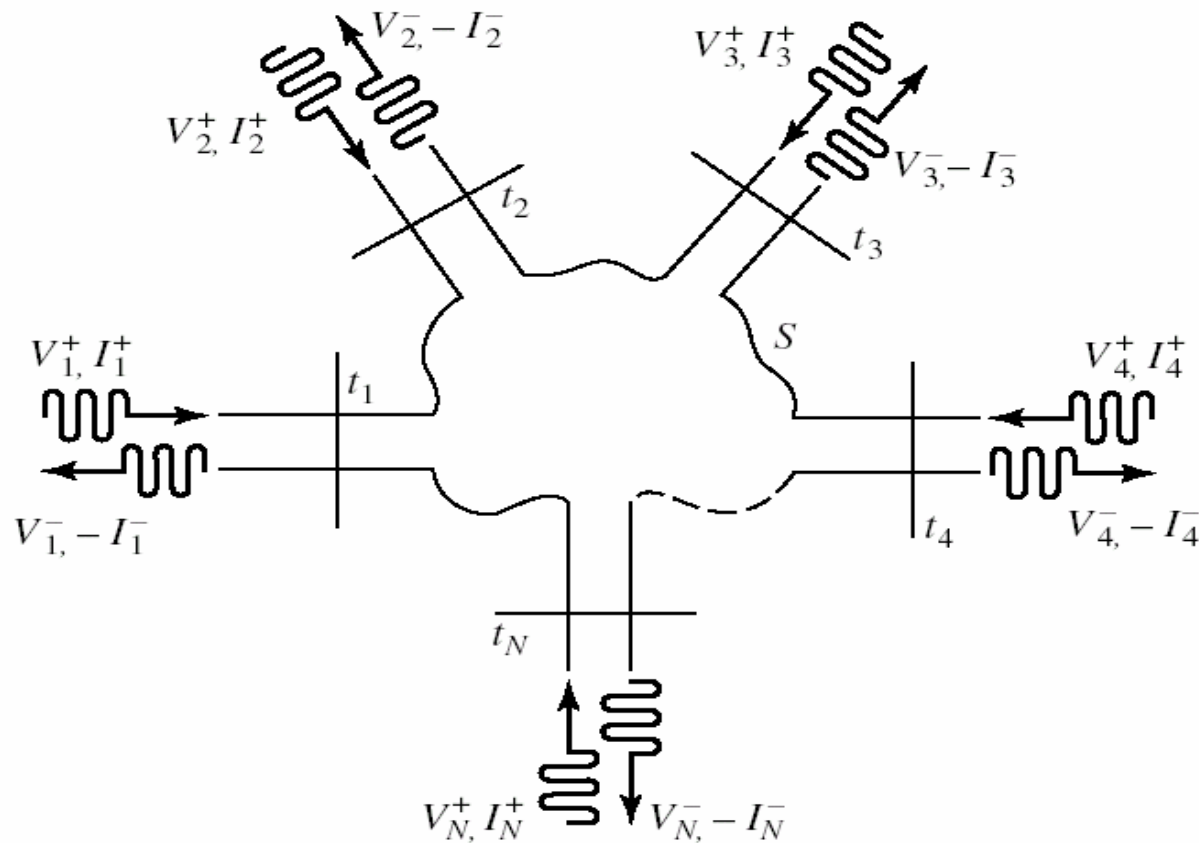

Figure 4.1: An arbitrary N -port microwave network
- Consider the N -port network shown in figure 4.1.